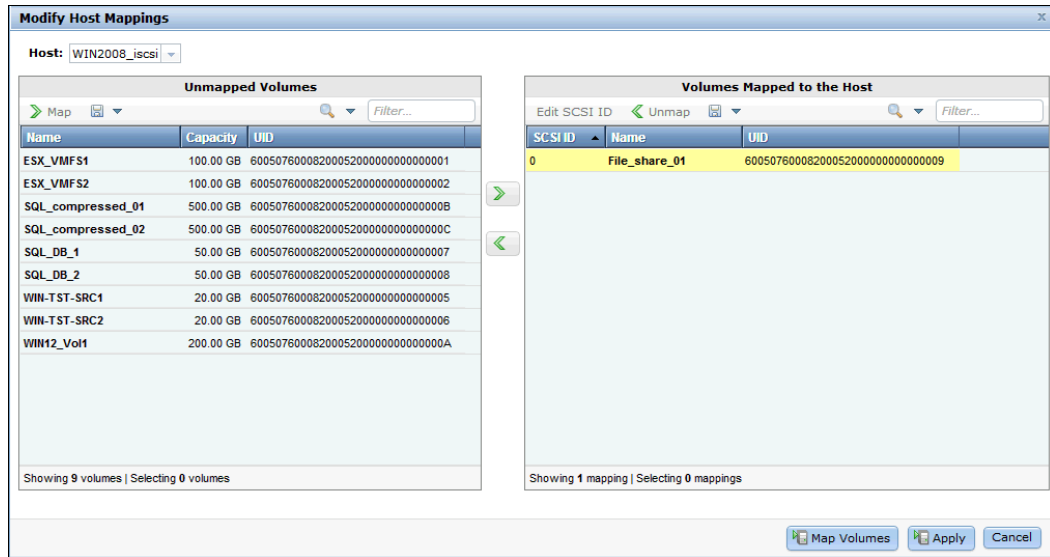

Figure 6-33 Map to host - select volumes
3. The Modify Mappings window opens, and your host and the newly created volume are already selected. Click **OK** and the volume is mapped to the host (Figure 6-33).